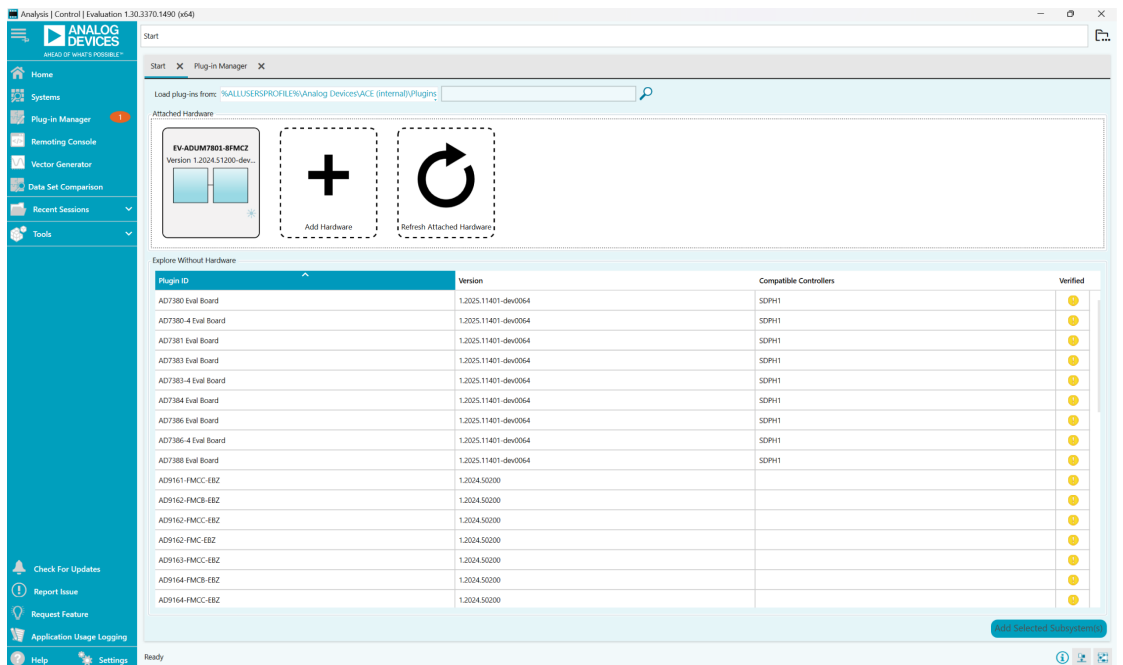
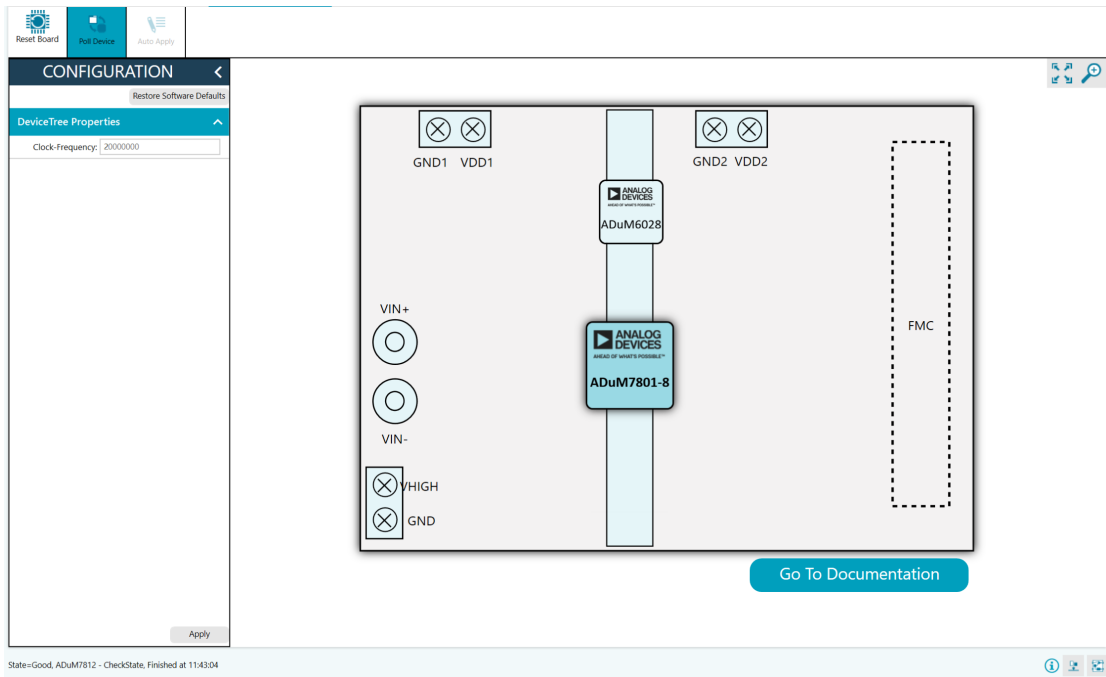

Figure 13. ACE Software Main Window
Figure 14. Chip View Window
1. In the **Start** menu of the PC, click **All Programs > Analog Devices > ACE > ACE.exe** to open the ACE software main window, as shown in Figure 13.
port by the ZedBoard when the ACE software launches, the **ADuM7801 Eval Board** icon does not appear in the **Attached Hardware** section in ACE (see Figure 13). To make the **ADuM7801 Eval Board** icon appear, connect the EV-ADuM7801-8FMCZ and the ZedBoard to the USB port of the PC, wait a few seconds, and then follow the instructions in the dialog box that appears.
3. Double-click the **ADuM7801 Eval Board** icon (see Figure 13) to open the chip view window, as shown in Figure 14.
After selecting the required clock frequency (maximum clock frequency: 25MHz), double-click the ADuM7801 diagram in the chip view window of the ACE Software (see Figure 14) to open the